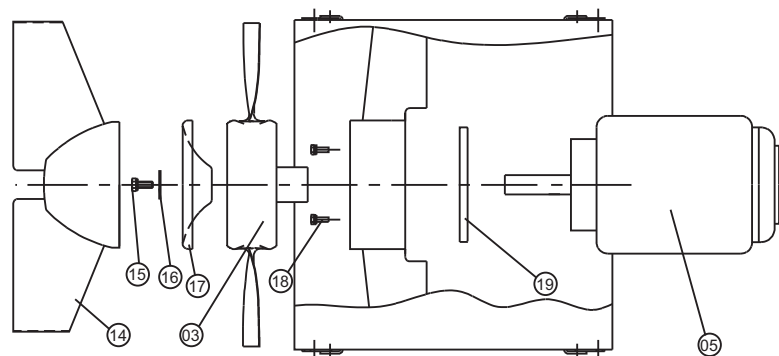

Figure 3. Dismounting and mounting of motor
- 4 **AUC:** Remove hub cover (figure 3, item 17).
- 5 **ARC:** Remove screws in guide plates of centre fairing (item 14) and pull out the guide plates.
- 5 Remove centre screw of impeller (figure 3, item 15).
- 6 Remove the centre disc of the hub cover (figure 3, item 16). Remove the hub cover (item 17).
- 8 Remove the four set screws (figure 3, item 18).
- 9 Dismount motor (figure 3, item 05) and motor flange (item 19). Note the motor position before removal.
- 1 After service remount the motor as in (figure 3, item 05) and check the position of the motor flange (item 19). Check the motor shaft is concentric to the fan casing, before tightening the set screws (item 18).
- 3 Mount centre screw (figure 3, item 15), centre disc (item 16) and for AUC hub cover (item 17).
- 4 Type ARC: Mount the centre fairing (figure 3, item 14).